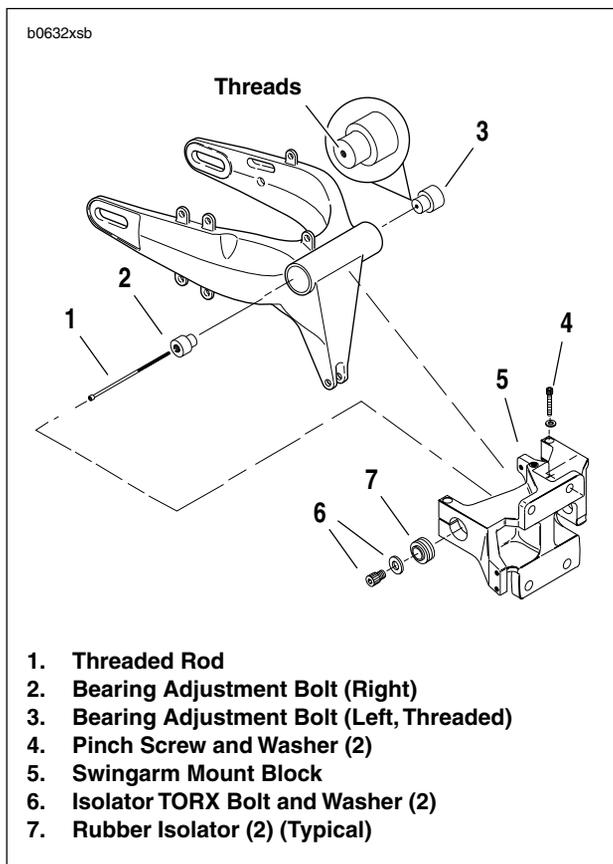

Figure 2-73. Swingarm Assembly
14. See Figure 2-73. Remove left and right isolator bolts and washers (7).
See Figure 2-73. The left side bearing adjustment bolt (3) has additional internal threads.
- Apply LOCTITE THREADLOCKER 222 (purple) to the threaded rod (1).
- Insert the rod through the right side bearing adjusting bolt (2).
- Install and tighten left bearing adjustment bolt (3) (with internal threads) on left side of swingarm.
- Tighten the left pinch screw (4) on the swingarm mount block (5). Do not tighten the right side pinch screw at this time.
- See Figure 2-73. Align **new** swingarm between posts on swingarm mount block (5).
- Tighten left side swingarm pinch screw (4) to 18-20 ft-lbs (24-27 Nm).
- Install threaded rod (1).
- Insert threaded rod through right side bearing adjustment bolt (2) into threads on left side bolt (3).